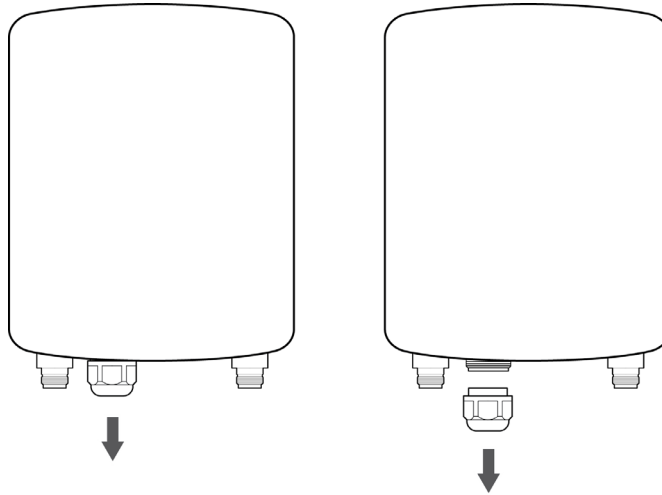

Figure 10. Removing the Sealing Nut, Clamping Claw, and Sealing Insert
1. Unscrew the sealing nut at the LAN port on the access point and remove the clamping claw and sealing insert. Refer to Figure 10.